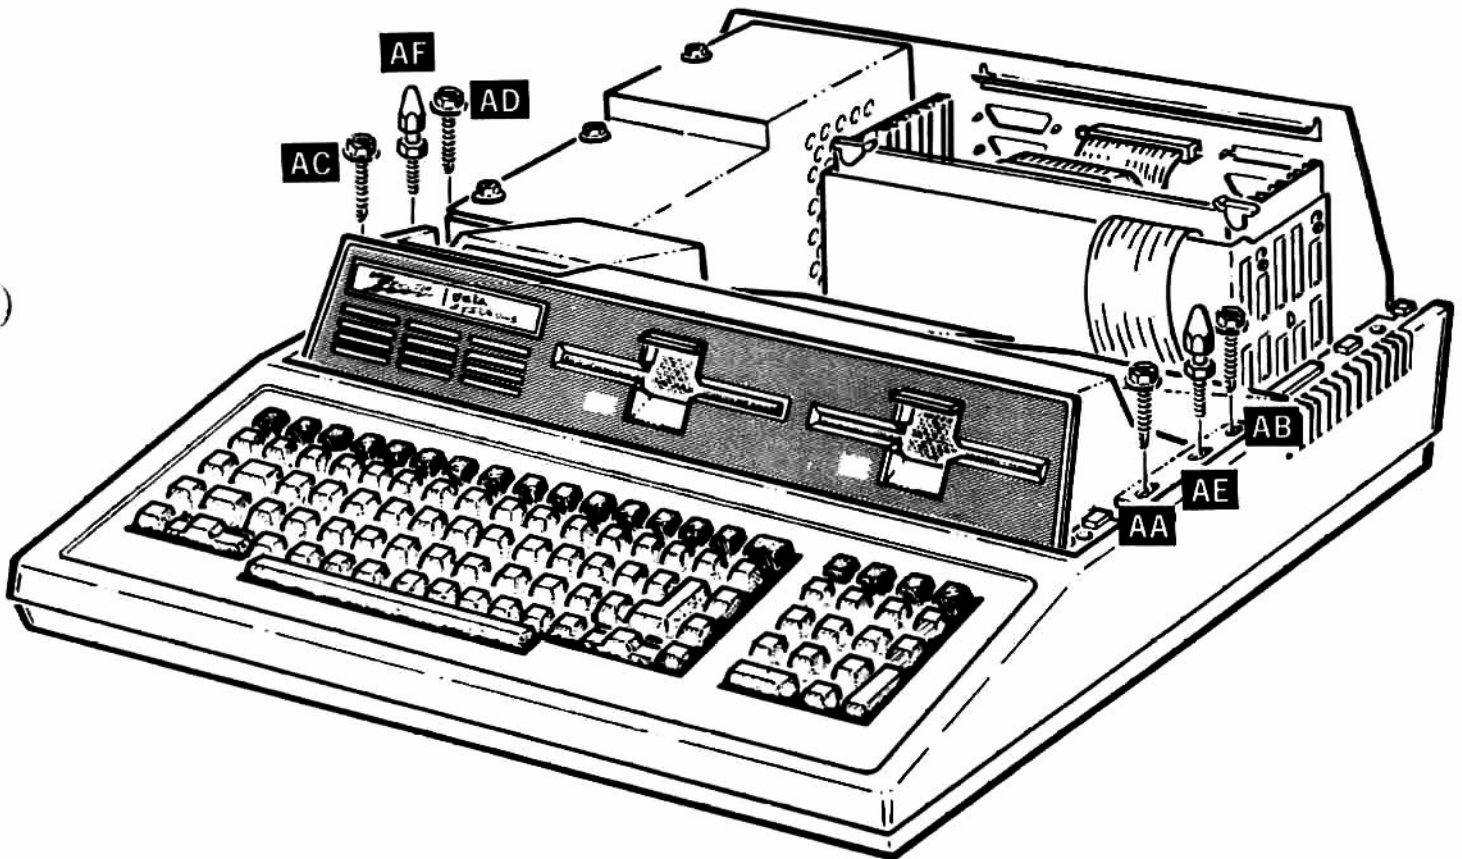

Figure 2.17. Drive Mounting Screws and Pin Installation
- Refer to Figure 2.17. Install and tighten four screws at positions AA, AB, AC, and AD.